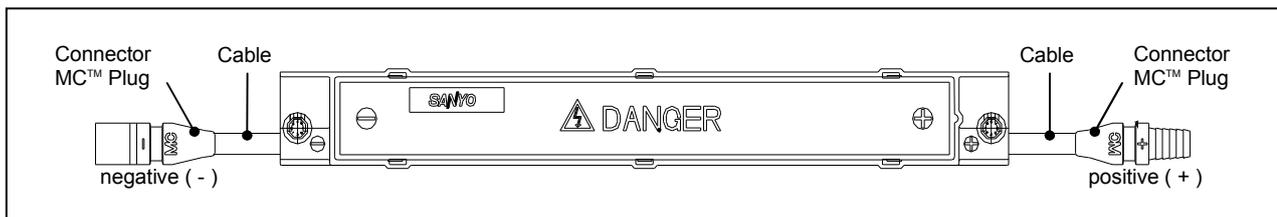

Figure 3. Configuration of Junction Box
- One terminal is dedicated to each polarity; with the polarity symbols engraved onto the body of the junction box (see Figure 3).